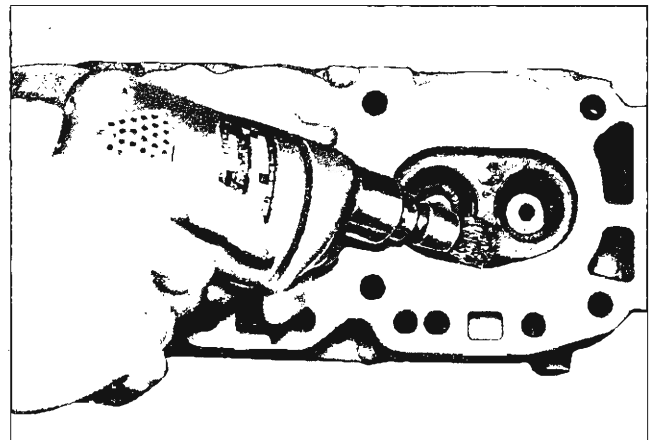

Fig. 13—Removing Carbon from Combustion Chamber
1. Clean all carbon from combustion chambers and valve ports using Tool J-8089 (fig. 13).